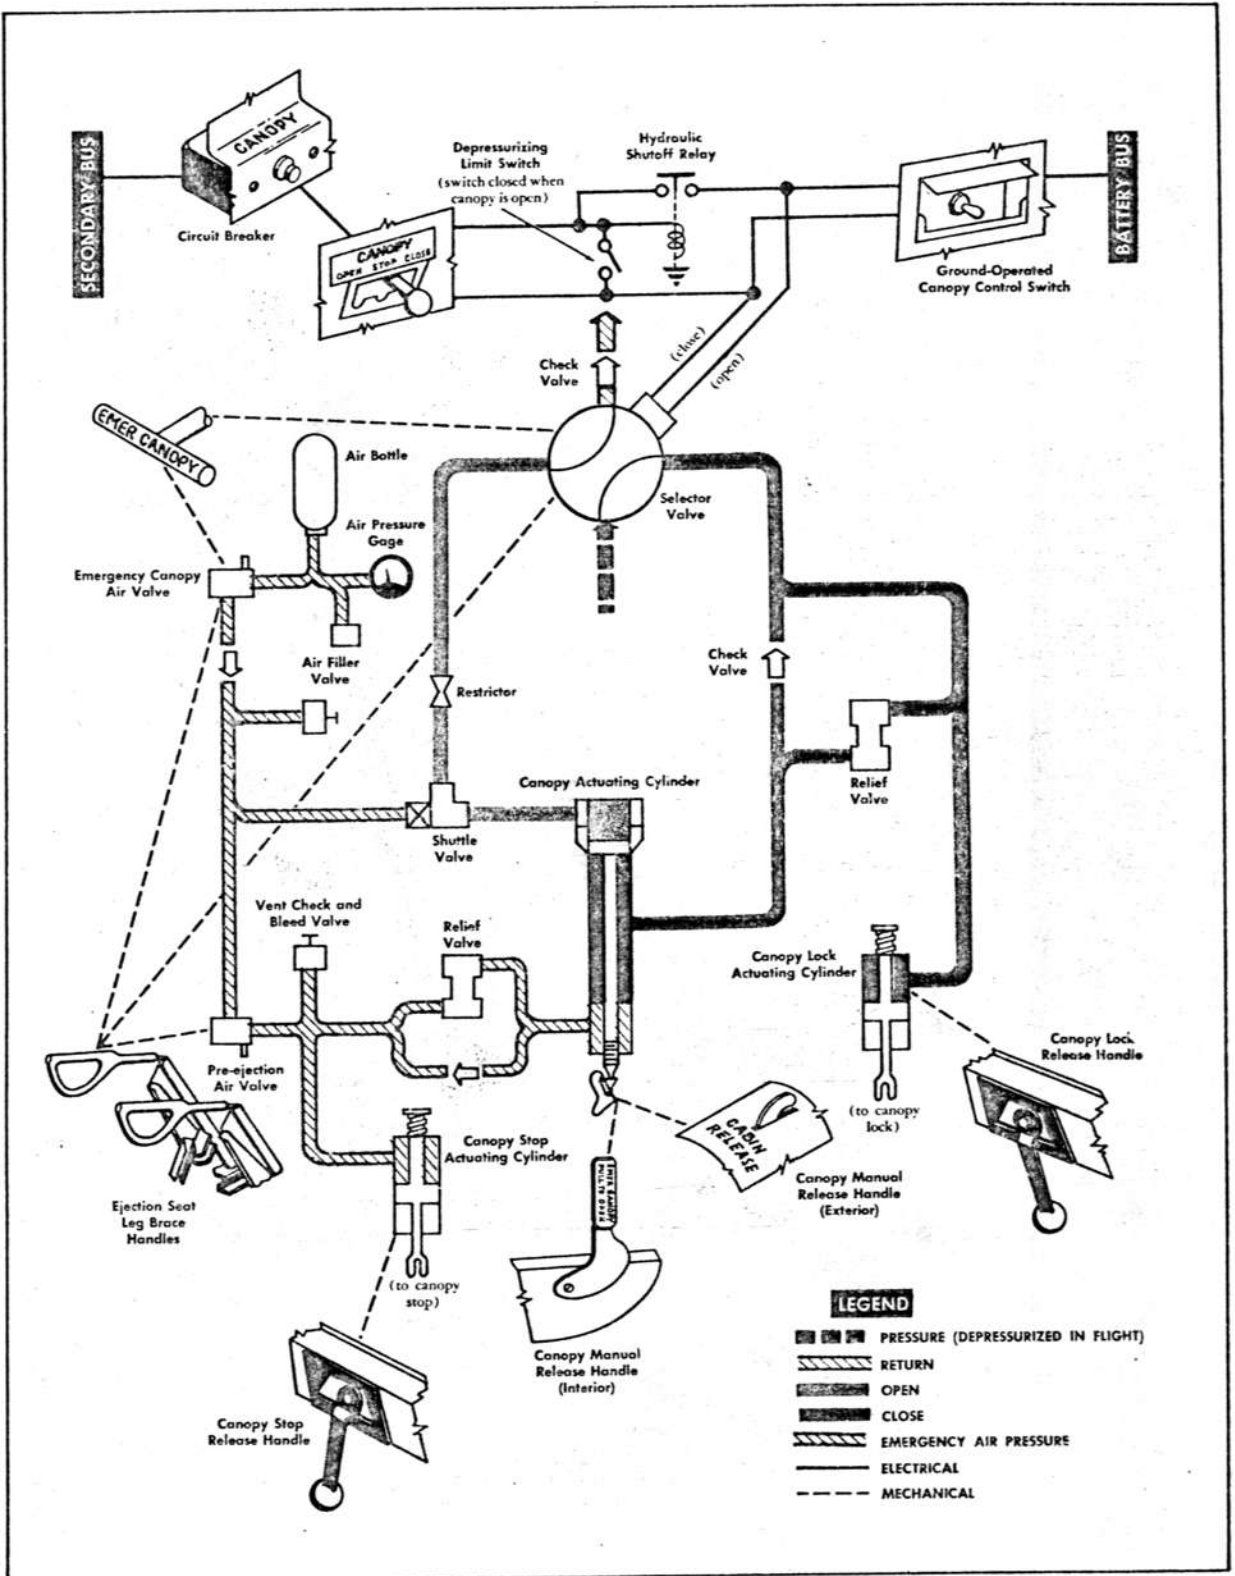

Figure 1-37. Canopy Control System Schematic
**GENERAL.** (See figure 1-37.) The canopy is normally opened and closed by hydraulic pressure. It can also be opened and closed manually. If the canopy cannot be opened normally, or conditions do not allow the use of manual controls, it can be opened by emergency air pressure. During ejection seat operation, the canopy is jettisoned by emergency air pressure. The canopy